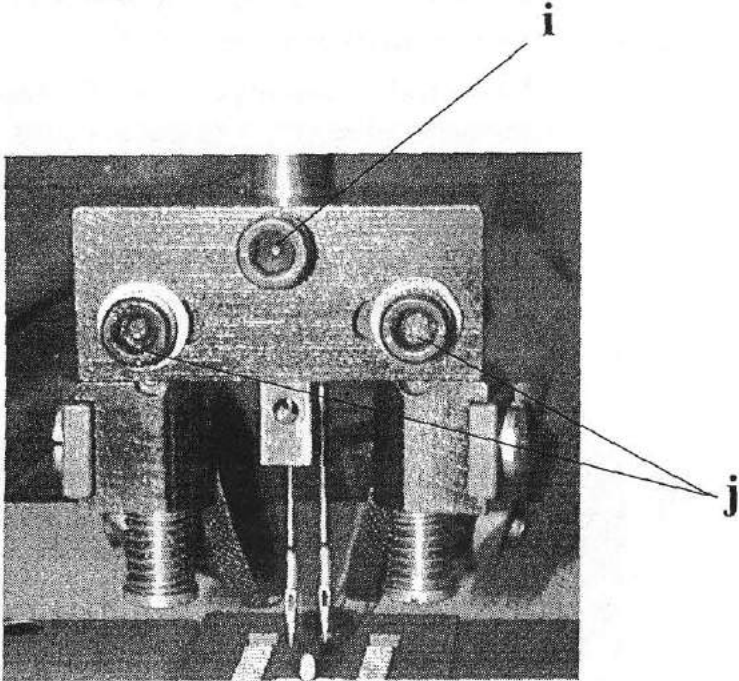

Fig.2
- With screw **i**, regulating stroke height of hand wheel ◦ (Fig.2)
- With screw **j**, regulating between the width of two the hand wheels ◦ (Fig.2)